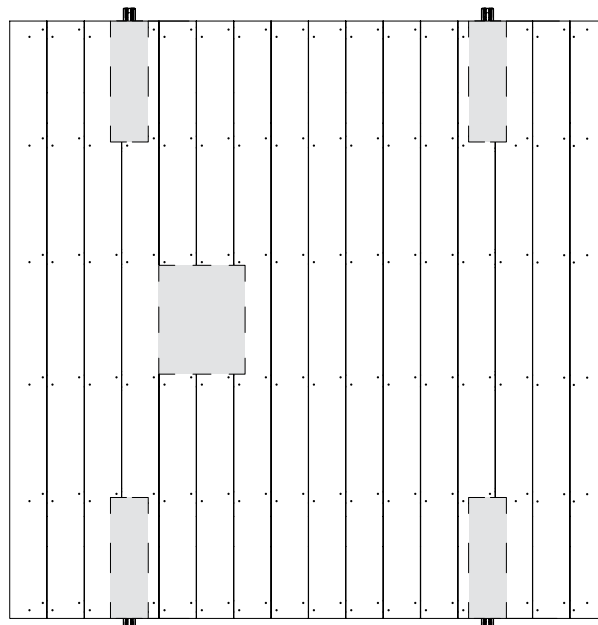

Fig. B2.14
- (Fig. B2.14)
- When cutting the planking take into consideration the cut-outs for the hatches. (Fig. B2.14)